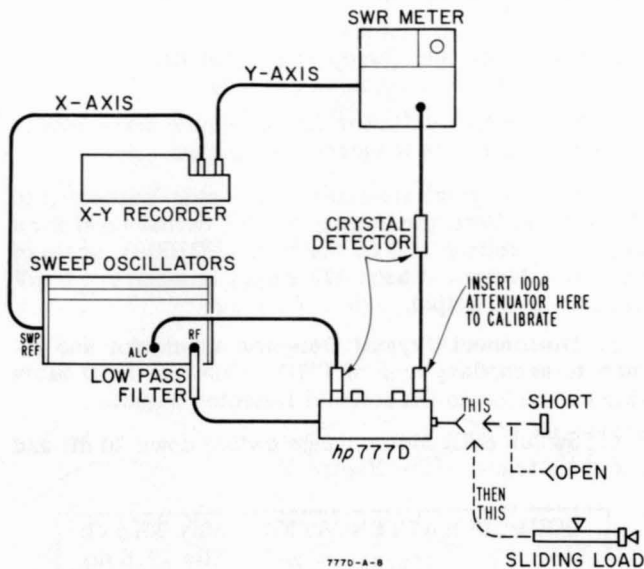

Figure 7. Directivity Check
- (2) Subtract minimum reading from maximum reading; $\underline{\hspace{1cm}} = \underline{\hspace{1cm}} = \underline{\hspace{1cm}}\text{ db}$
- (3) Refer to Figure 7 and determine two correction factors; correction factors = $\underline{\hspace{1cm}}$ and $\underline{\hspace{1cm}}$.
- (4) Add minimum reading to each correction factor separately; $\underline{\hspace{1cm}}\text{ db} + \underline{\hspace{1cm}} = \underline{\hspace{1cm}}\text{ db}$
- (2) $37.4 - 32.5 = 4.9\text{ db}.$
- (3) Referring to Figure 7, the two correction factors are 2.1 and 13.3 db.
- (4) Adding minimum reading to each correction resulted in the following corrected minimum readings:
- (5) Sliding Load loosened slightly and drawn away from 777D.
- (6) The above procedure when repeated resulted in the following:
- (c) Correction factors from Figure 7: 1.2 db and 18.0 db.